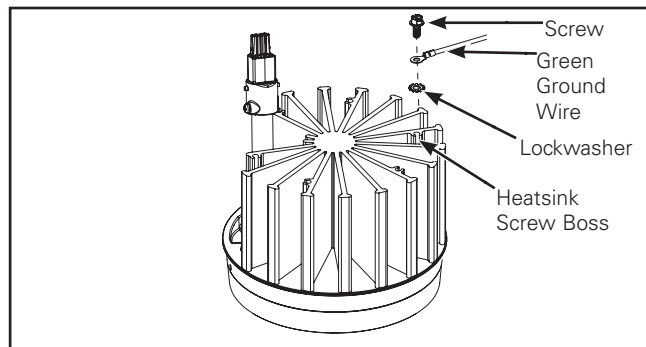

Figure 8.
5. Find the green ground wire inside cylinder and attach it to the heatsink screw boss, using the lockwasher and screw provided (Figure 8.).